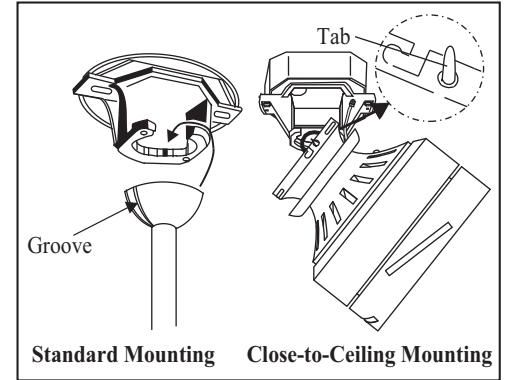

Figure 15
4. Carefully lift the fan assembly up to the ceiling mounting bracket and hang the fan on the tab provided by utilizing one of the holes at the outer rim of the ceiling canopy (Figure 15). If using the standard mounting, seat the hanger ball in the mounting bracket socket. Make sure the tab on the mounting bracket socket is properly seated in the groove in the hanger ball (Figure 15).
THE TAB AS SHOWN IN FIGURE 15 IS ONLY TO BALANCE THE FAN WHILE ATTACHING WIRING. FAILURE TO HANG AS SHOWN IN FIGURE 15 MAY RESULT IN TAB BREAKING CAUSING THE FAN TO FALL. TAB MUST PASS FROM INSIDE TO OUTSIDE OF CANOPY.